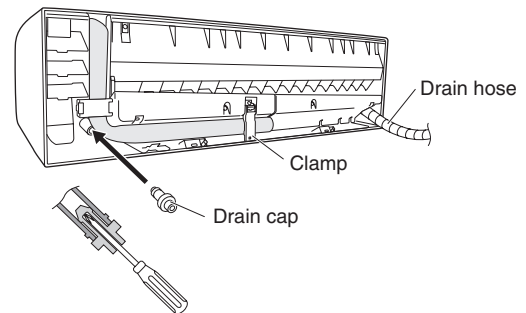

Fig. 1-173
- (d) Reattach the drain hose to the left side and the drain cap to the right side. (Fig. 1-173)
- (3) Install the indoor unit on the rear panel.
- (4) Connect the tubing and wiring led inside from outdoors.
- (5) After completing a leak test, bundle the tubing together with armoring tape and store it inside the tubing storage area at the back of the indoor unit and hold it with clamps. (Figs. 1-173 and 1-175)